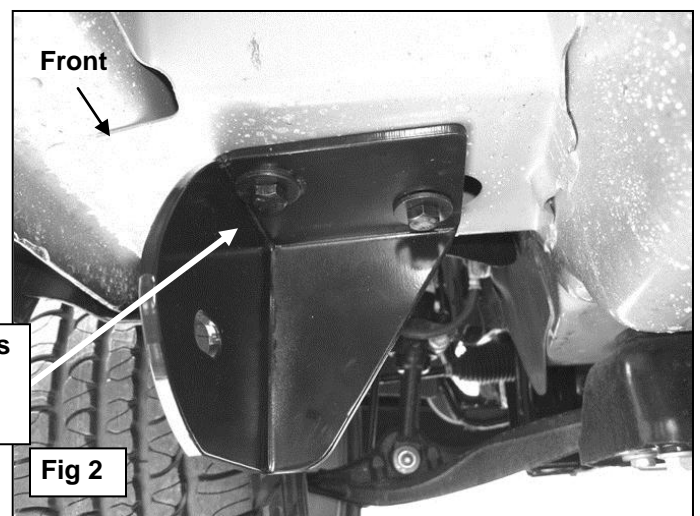

Fig 2
- Select the driver side Front Bracket. Hang the Bracket from the Double Welded Nut Plate with (2) 10mm x 30mm Hex Bolts, (2) 10mm Lock Washers and (2) 10mm Flat Washers inserted through the Bracket and into the Double Nut Plate, **(Figure 2)**. Leave hardware loose at this time.